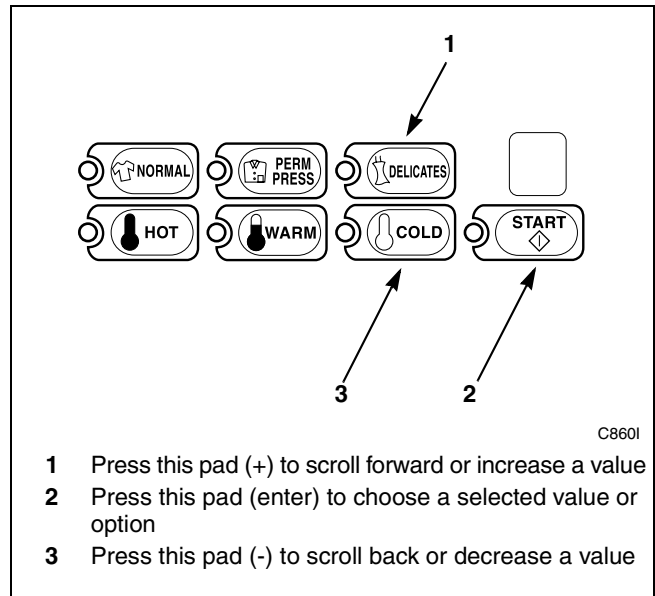

Figure 155
5. Press the DELICATES (+) or the COLD (-) keypad to increase or decrease the current number of minutes displayed in the VFD to the desired number of minutes. Refer to *Figure 155*.
**NOTE: The Delicate Wash Agitate Time can be set from zero (0) to 15 minutes.**